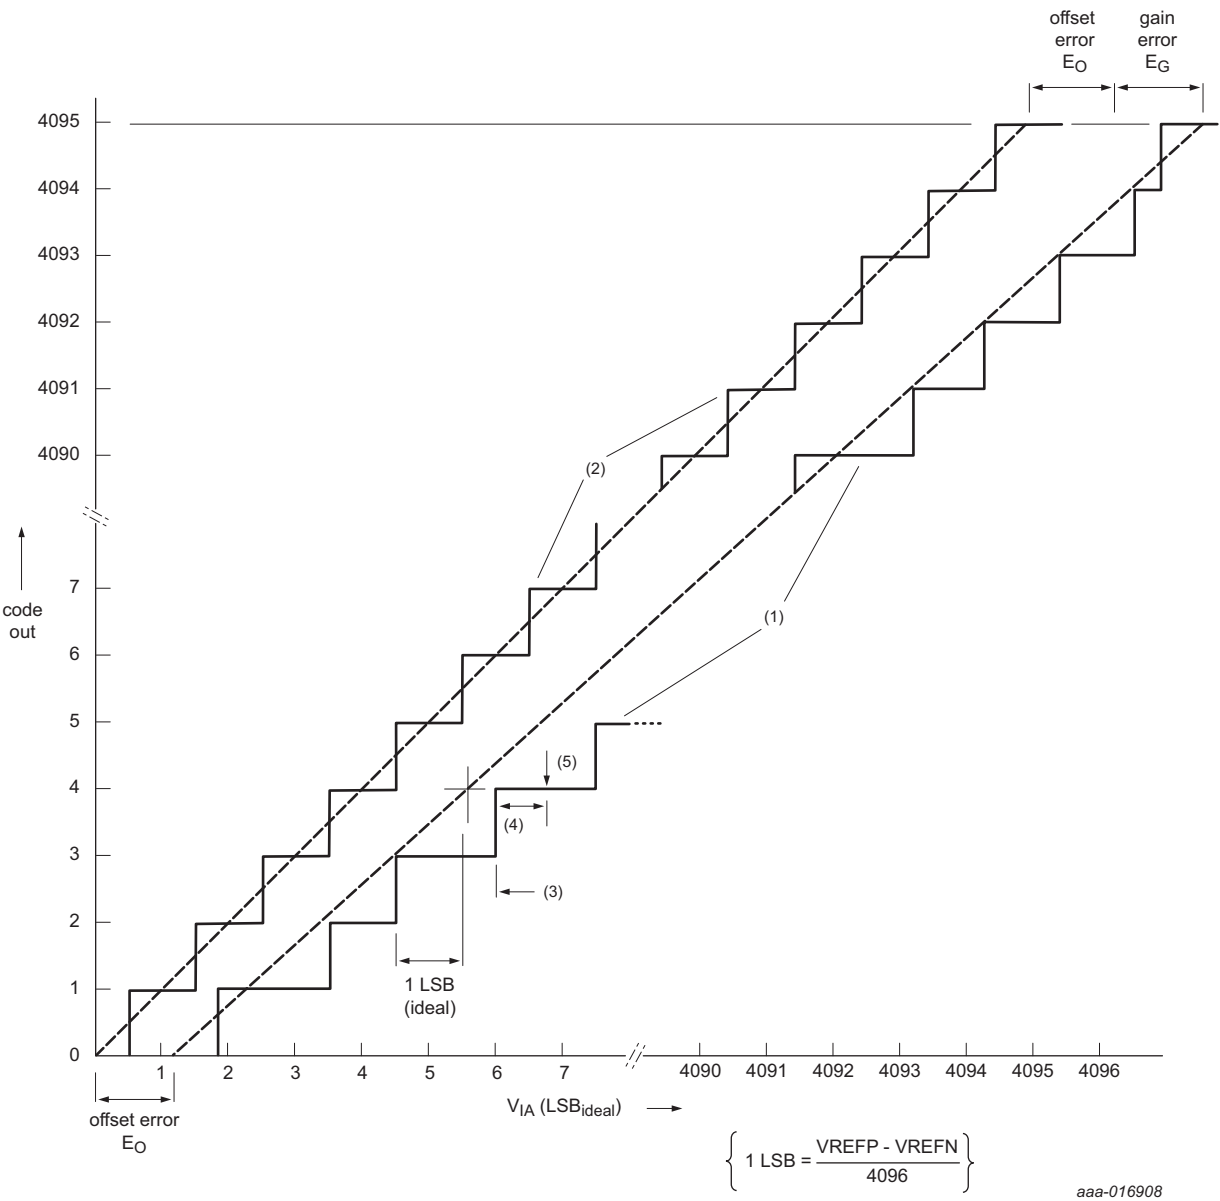

Fig 33. 12-bit ADC characteristics
- [1] The input resistance of ADC channel 0 is higher than for all other channels. See Figure 33.